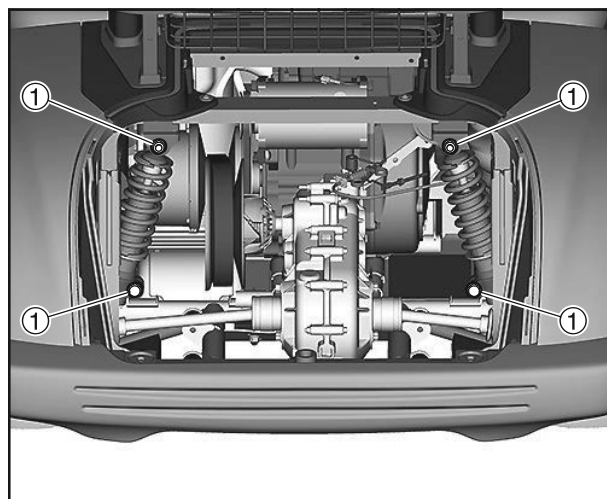

Figure 6-63
2. Remove the bolts (Figure 6-63, (1)) of the rear shock absorber. Remove the rear shock absorber.